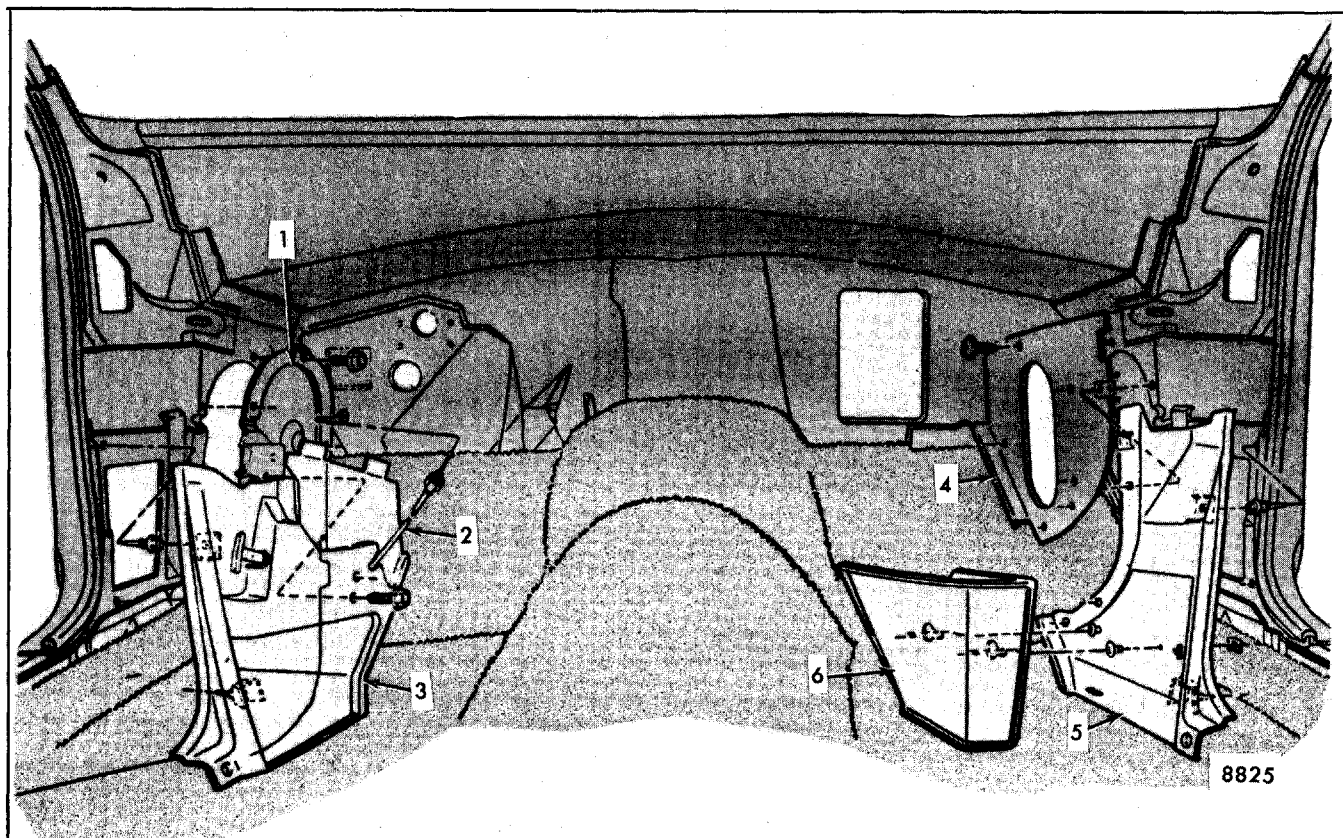

Fig. 4-12 - Front End Component Identification (Typical)
Figure 4-12 identifies interior front end components as installed on "K" styles.
The left side shroud panel consists of a trim panel and hood release cable assembly (items 2 and 3, Fig. 4-12). The cable must be removed as an assembly during shroud side trim panel removal.
The right side shroud panel consists of a side duct panel and door assembly ("4", Fig. 4-12), a rear shroud side trim panel ("5", Fig. 4-12) and a litter container ("6", Fig. 4-12).